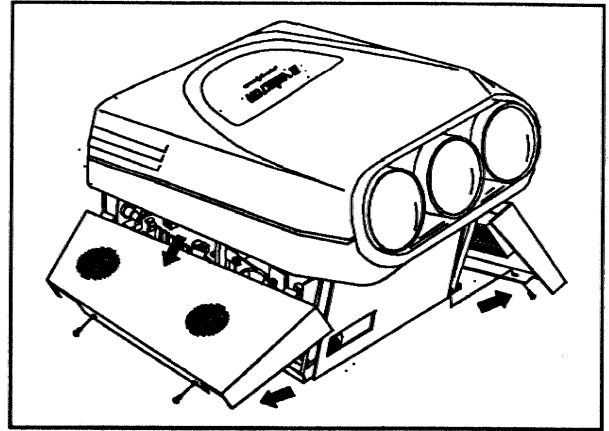

FIGURE 5-4. Side Panel Removal 02080837
- a) Remove the 2 screws securing each side panel to the projector frame as shown in Figure 5-4.